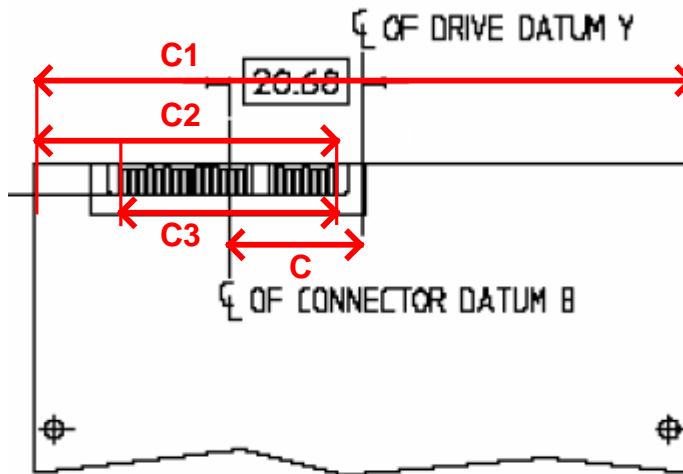

Figure 9
1. Using the outside measurement jaw of the calipers measure the value of  $C1$  as shown in Figure 9. Record the value of  $C1$ .
2. Using the outside measurement jaw of the calipers measure the value of  $C2$  as shown in Figure 9. Record the value of  $C2$ .